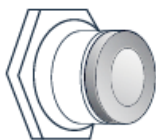
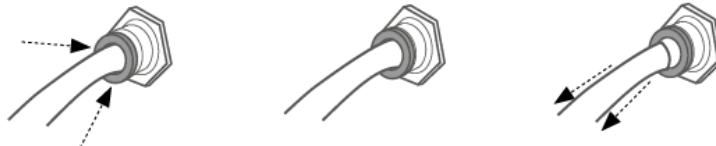

Fig 3. 6mm OD pneumatic push-in connectors
Fig 4. How to disconnect OB1 quick connect fittings
The Elveflow Pressure & Vacuum Sources use 6mm OD pneumatic push-in connectors (Fig 3 below), often named “Quick Connect fittings”. Connect any 6 mm OD tubing to a push-in connector by inserting the tube in the vacuum or pressure connector. To disconnect the pressure and/or the vacuum inlet, ensure that the pressure and vacuum sources are turned off, then push the grey ring and pull tubing (Fig 4 below).
3. To disconnect the pressure and/or the vacuum inlet, ensure that the pressure and vacuum sources are turned off, then push the grey ring and pull tubing (Fig 4 above). Pulling on the tubing without pressing the ring is very likely to damage the connection.